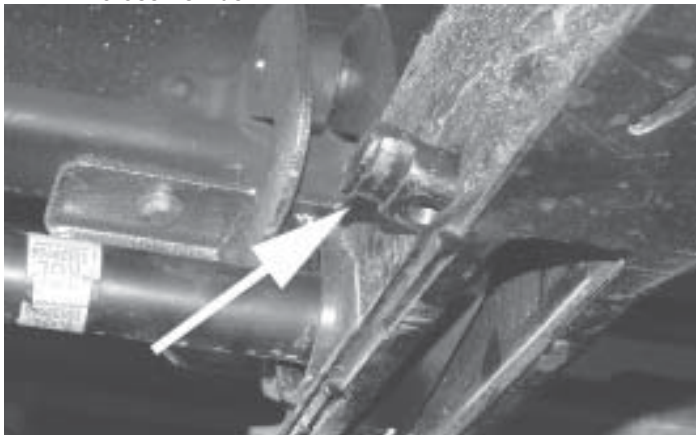

Fig. 5
H. Remove the retaining plates. **Fig. 5**